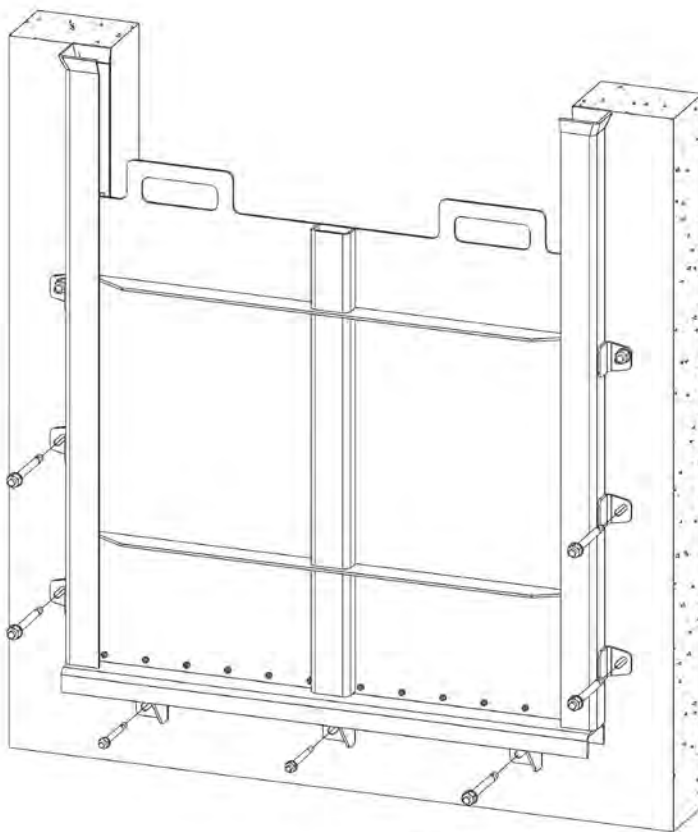

Figure 14
- Drill and install the rest of the anchor bolts (see Figure 14).